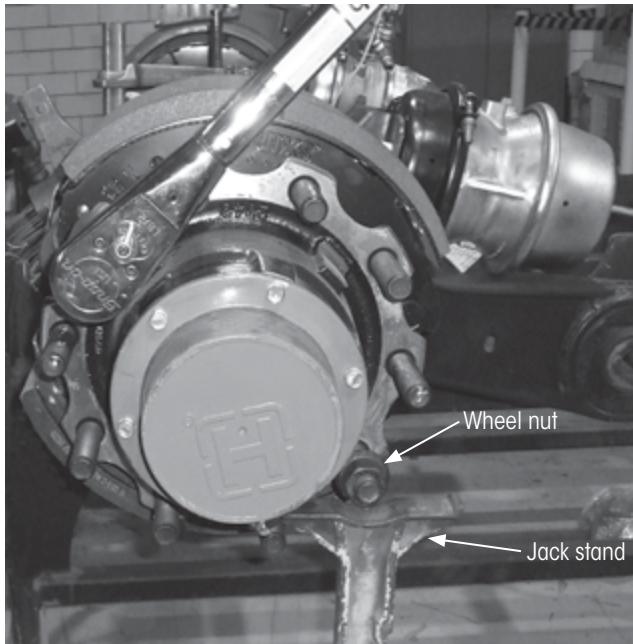

Figure 6: Stud draw-in process
- Complete stud draw-in process using a **torque wrench** set to 300 ft. lbs. (407 Nm) (Figure 6). With threads protected by a nut, a jack stand can be used to prevent the hub from turning, as shown in Figure 6.